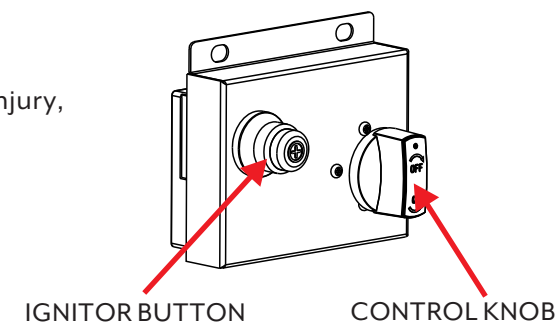

Figure 6
4. Adjust the flame to the desired amount by using the control knob. See Figure 6.